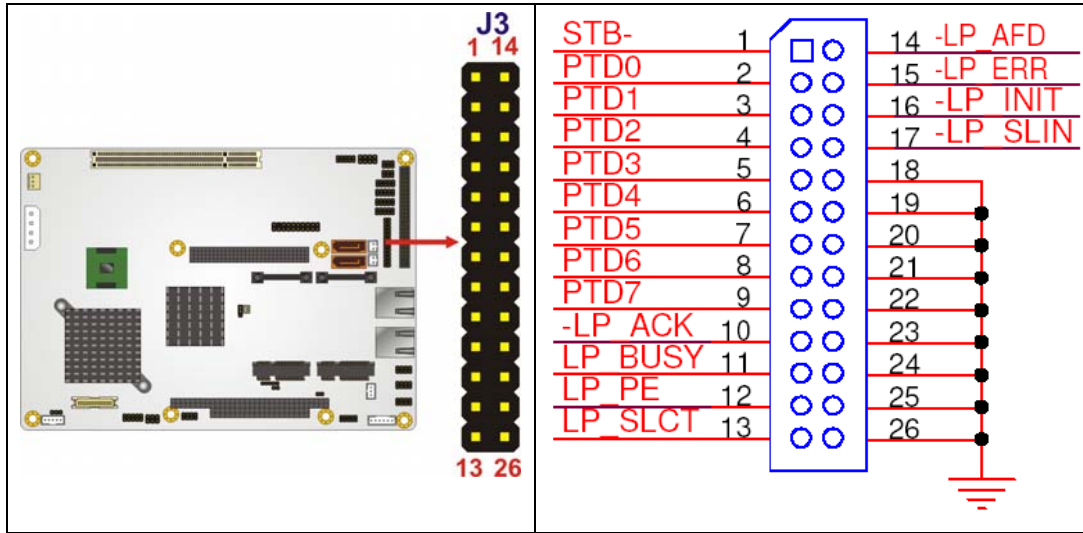

Figure 4-16: Parallel Port Connector Location
- CN Location:** See **Figure 4-16**